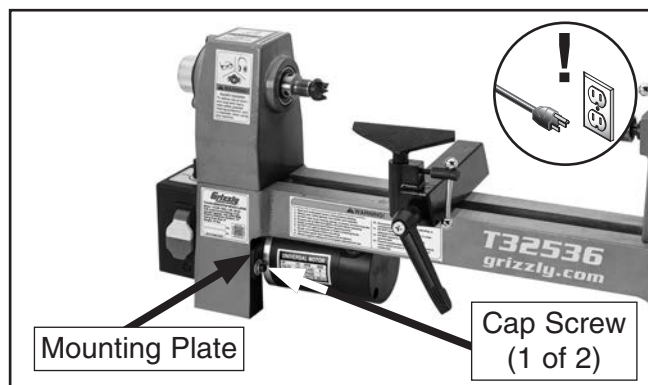

Figure 41. Location of motor mounting plate.
2. Loosen (2) M6-1 x 1 cap screws on motor mounting plate (see **Figure 41**).
2. Loosen (2) M6-1 x 1 cap screws on motor mounting plate (see **Figure 41** on **Page 34**).